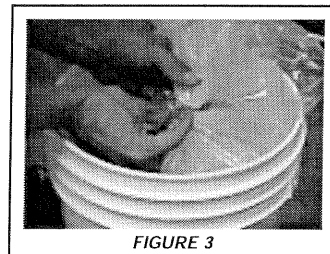

FIGURE 3
4. Gather the top of the outside bag and while "squeezing" the air out of the top, take the twist tie and wrap it around the neck of the bag and tie it shut. (Fig. 3)